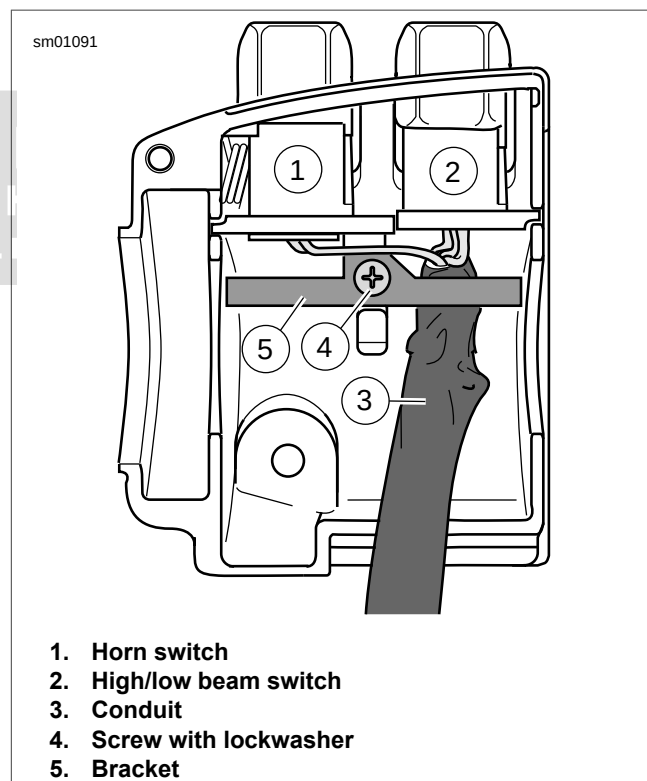
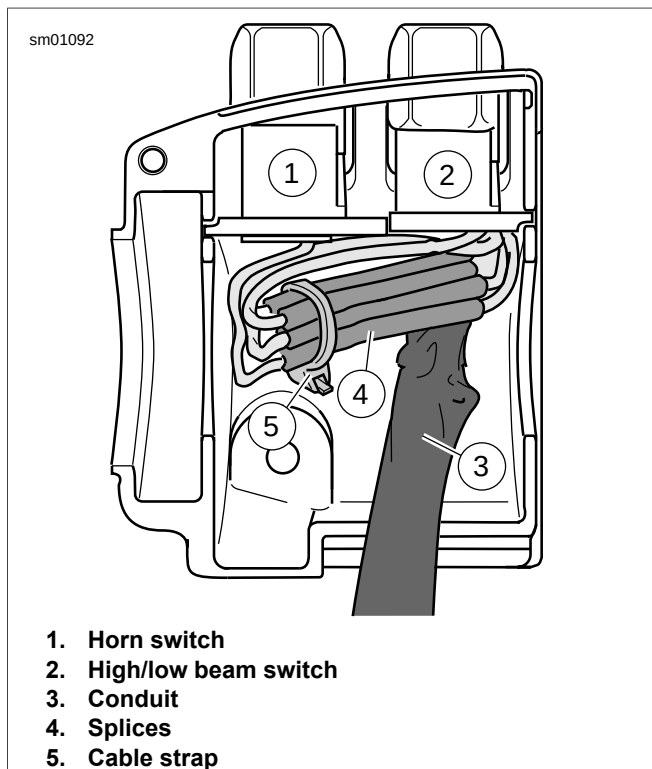

Figure 6-148. Upper Housing Without Splices
Figure 6-149. Upper Housing With Splices
1. See Figure 6-148. From inside the switch housing, remove the screw with lockwasher (4) to release the bracket (5). Remove bracket and switch assembly from the housing.
2. Move cable conduit (3) from beneath wing of bracket. Cut wires 0.25 in (6.4 mm) from old switches (1, 2). Discard old switch and bracket assembly.
3. Slide conduit forward over cut ends of switch wires and cut off 0.5 in (12.7 mm) of conduit (3) material. Push conduit back to access switch wires.
4. Separate the **new** horn switch (1) and high/low beam switch (2) wires into two bundles.
6. See Figure 6-149. Loop switch wires.
7. See Figure 6-148. Route wires downstream of splices beneath wing on high/low beam switch side of bracket.
8. See Figure 6-149. Install a **new** 7.0 in (177.8 mm) cable strap (5) beneath wing on horn switch side (1) of bracket and capture wire splices (4).
10. See Figure 6-148. Install screw and lockwasher (4) to secure bracket (5) inside housing. Verify that wing on high/low switch (2) side of bracket captures edge of conduit (3) as shown.